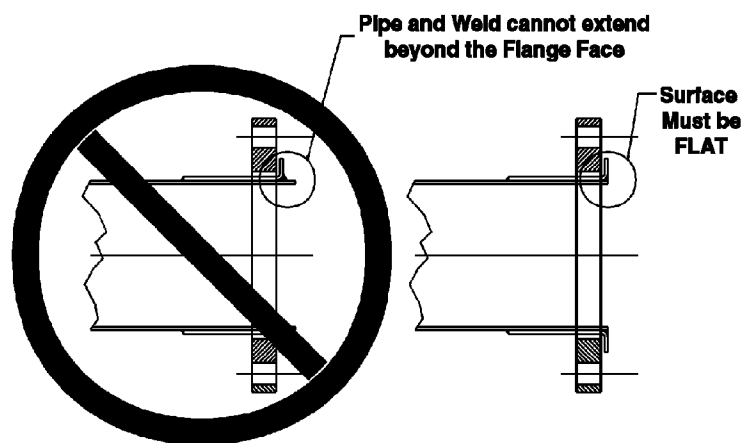

Figure 3 - Flange Face Detail
4. Ensure that the pipe does not extend beyond the flange face—the face of the flange that mates to the valve must be flat. See Figure 3